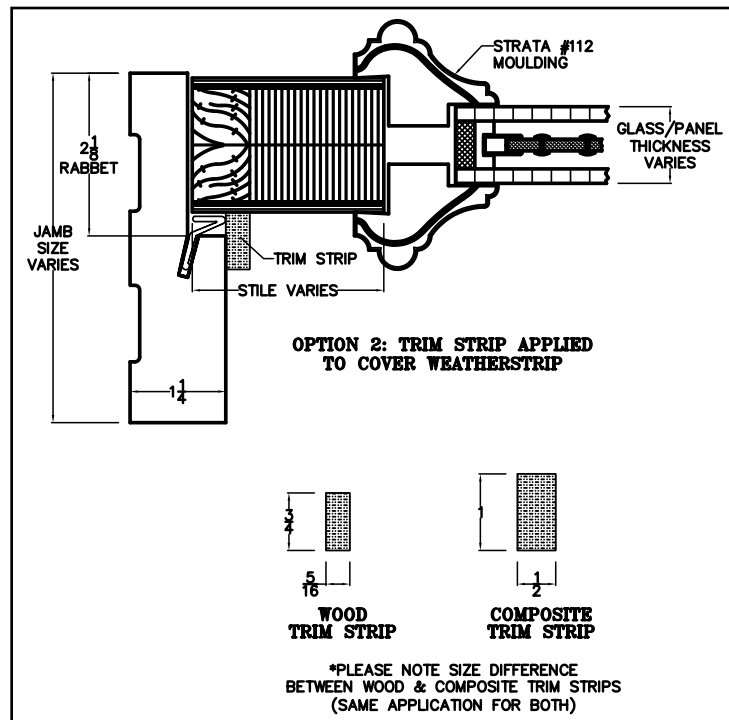

Fig. 16.1
- C1. For Custom Fiberglass Doors Only:** Insert weatherstrip in the kerfed area around the silight of the jamb. Once the door is completely installed, the finished trim strip may be applied with a 1-1/2" 6d finish nail. (See **Fig. 16.1** for details.)